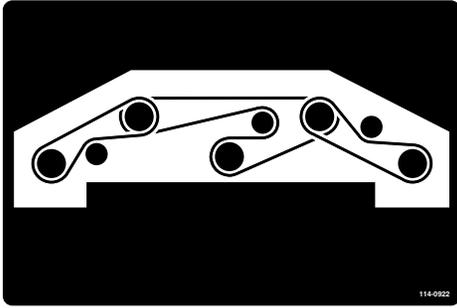

Figure 126
- Route the new belt around the spindle pulleys and idler-pulley assembly (Figure 126).